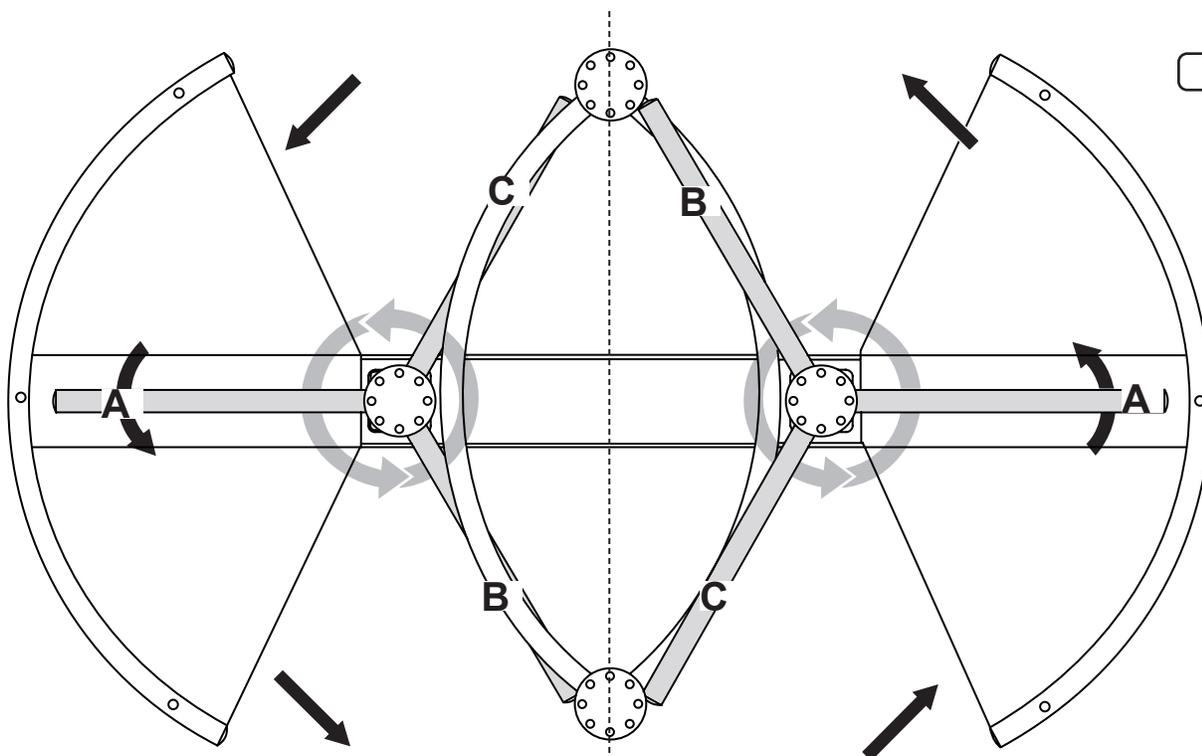

Fig. 28
1. The turnstile should always be in the “Home” position before access is requested (i.e. an access control card is presented to the card reader). If the turnstile is not in the “Home” position, manually reposition the Roto section (the arms) to the “Home” position before requesting access (Figure 28).
3. Immediately step into the turnstile (Figure 28). Keeping your arms extended, gently push on Roto arm section “A” and slowly walk through the turnstile (Figure 28). Stay near the Yoke and take short steps. Once you have traveled through the passage area move out of the way of the turnstile arms.